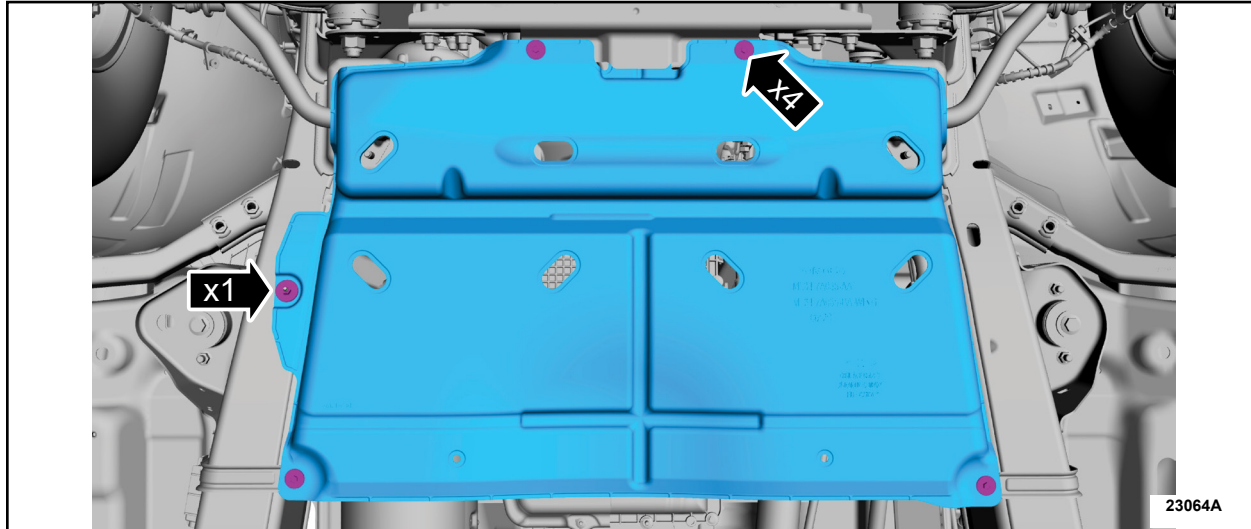

FIGURE 9
10. If equipped install the transmission shield and the bolts. See Figure 9.